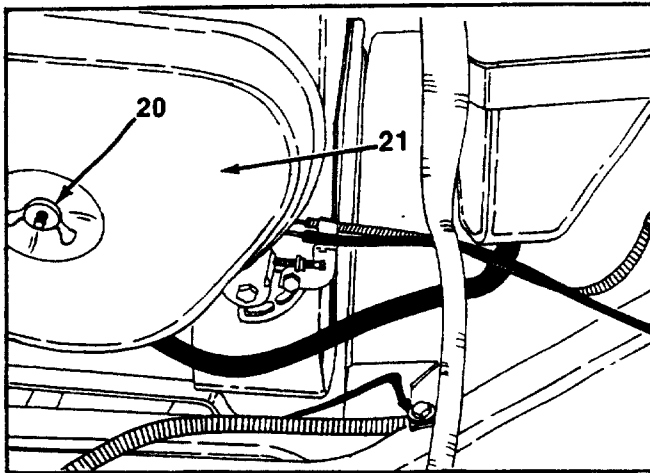

FIGURE 13.
14. Remove the wing nut holding the air cleaner cover. See figure 13.